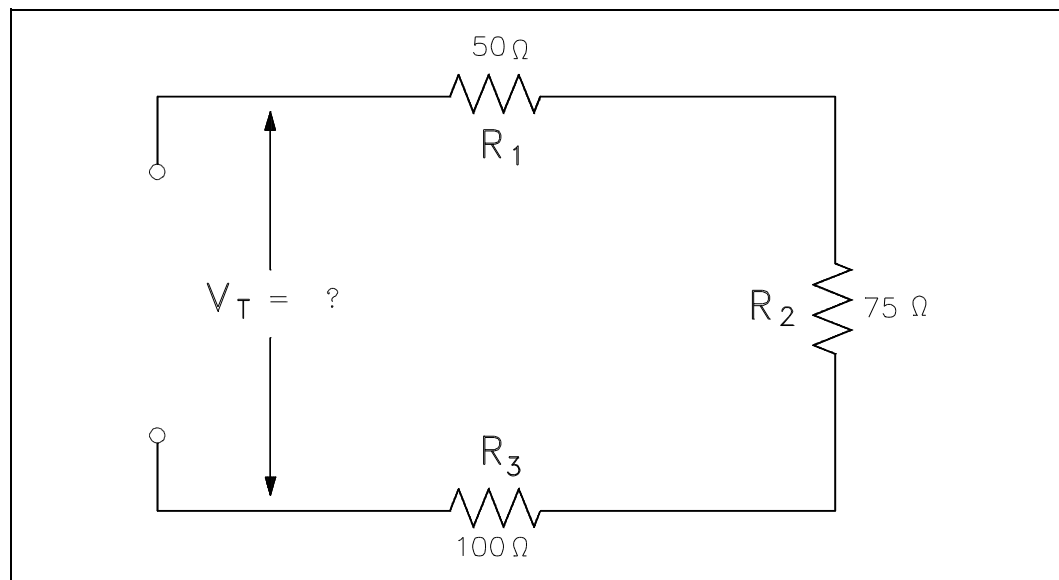

Figure 21 Example 1 Series Circuit
**Example 1:** A series circuit has a  $50\Omega$ , a  $75\Omega$ , and a  $100\Omega$  resistor in series (Figure 21). Find the voltage necessary to produce a current of 0.5 amps.